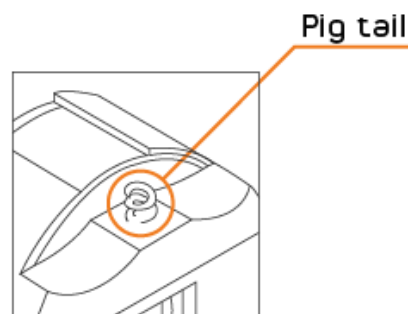

Figure 34
7. Wrap the thread around the pigtail twice. See Figure 34.